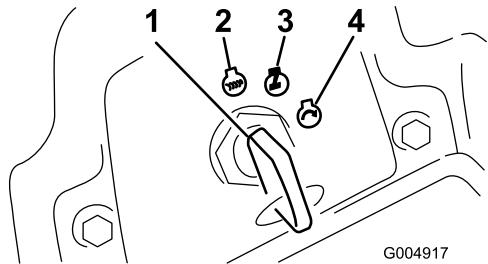

Figure 16
- Turn the ignition key clockwise to the Run position (Figure 16).
3. Turn the ignition key to the Off position (Figure 16). Wait for all moving parts to stop before leaving the operating position.